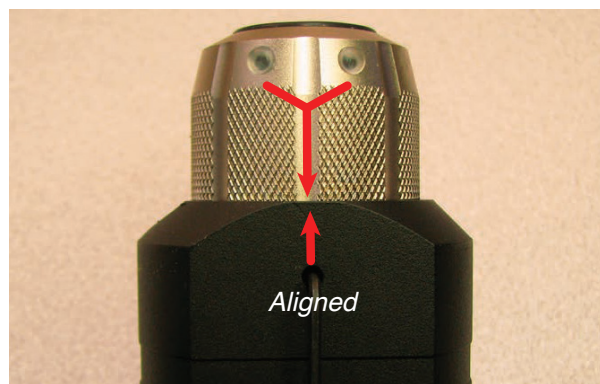

Figure 6: Proper Cap Installation with no Gap between Cap and Padlock
15. Verify that the cap is locked in place by the internal latch and can't be unscrewed. Note Figure 6 for proper cap installation without a gap between the cap and padlock body.